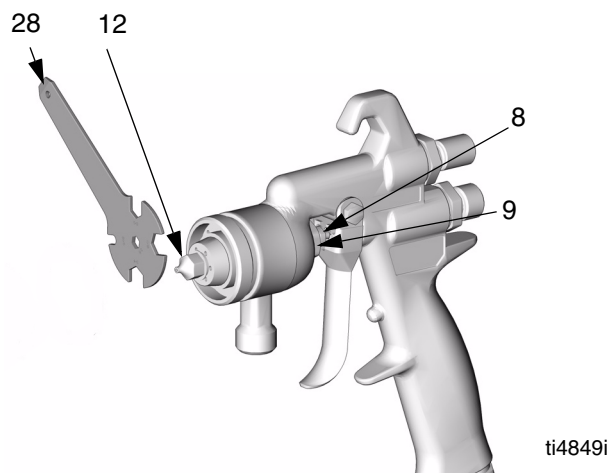

FIG. 41
13. Tighten the packing screw (8) by turning the screw in until it touches the fluid packings, then tighten one full turn to pre-set the packings. Loosen the screw, then turn it in until it touches the packings again. Tighten the screw 1/12 turn more (equal to half the distance between points on the hex head). See FIG. 41.
14. Trigger the gun to test the needle movement. If the needle does not return after the trigger is released or is slow in returning, loosen the packing screw (8) until the needle returns freely.
15. Replace seal (15B). Install the air cap (14), air cap retaining ring (15A), and seal (15B). Hand-tighten the ring.